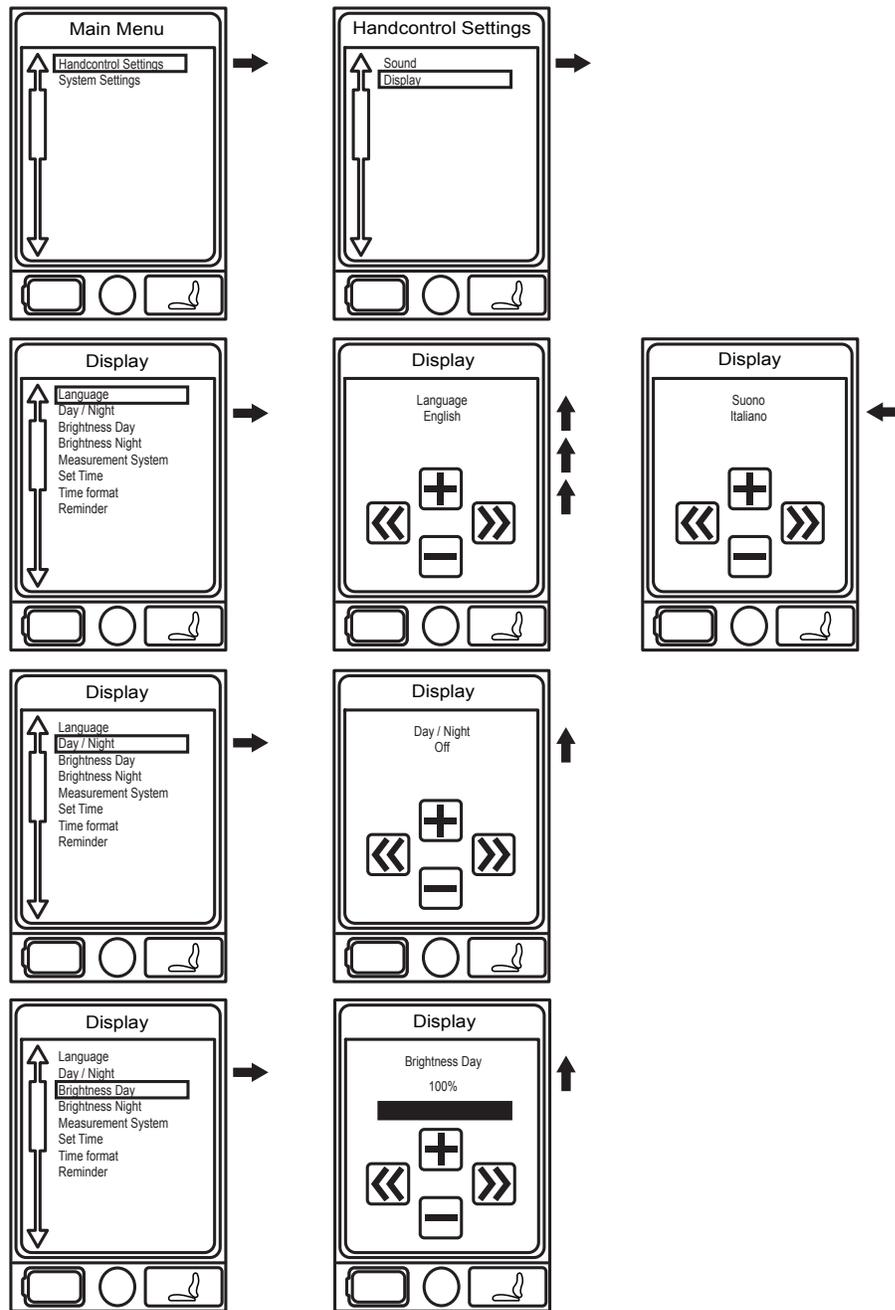

Figure 5A. Menu Screens
2. Push the Menu button to access the Main Menu screen. **See figure 5A.**
3. Use the joystick to highlight the Handcontrol Settings option, then push the joystick right to select that function. **See figure 5A.**
6. Push the joystick up until the desired language is displayed. **See figure 5A.**